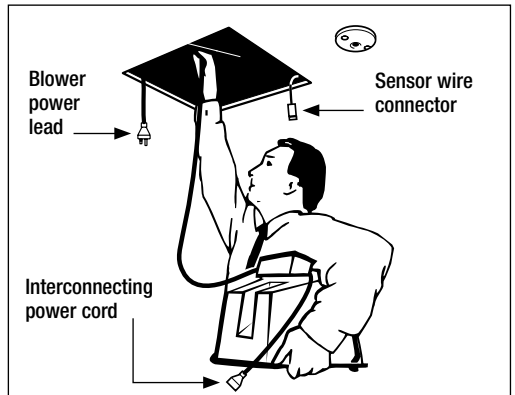

Fig. 22
1. Feed ducting and blower through hole in ceiling. While feeding ducting into ceiling direct it towards the installation position of the outlet grille. Position blower so that the short length of ducting is stretched out and Transition piece along striped or terminated wire is sitting next to the hole as seen in Fig. 22